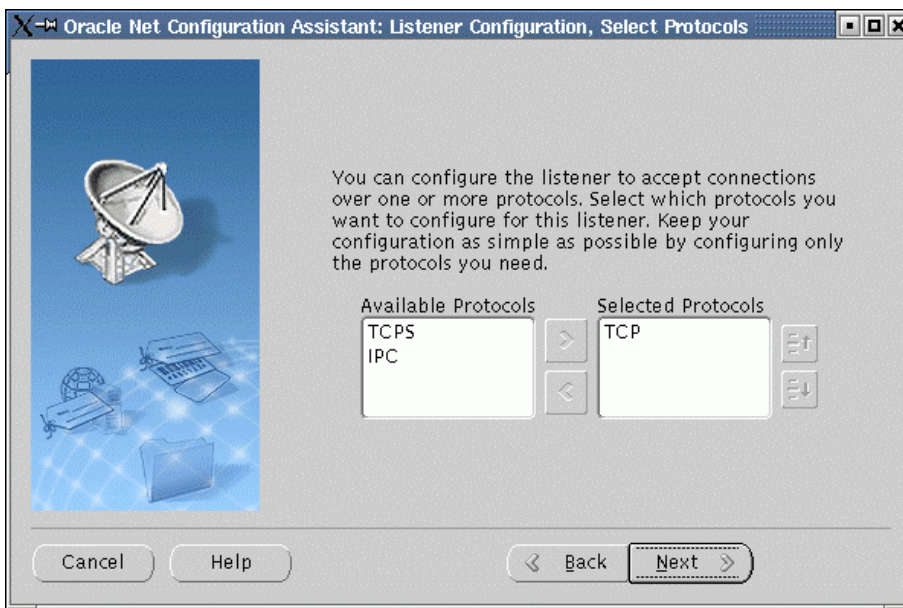

Figure 72. netca - protocol selection
- The Protocol Selection screen, shown in Figure 72, is displayed, with tcp/ip selected as default. Leave the default as shown and click **Next** to continue.